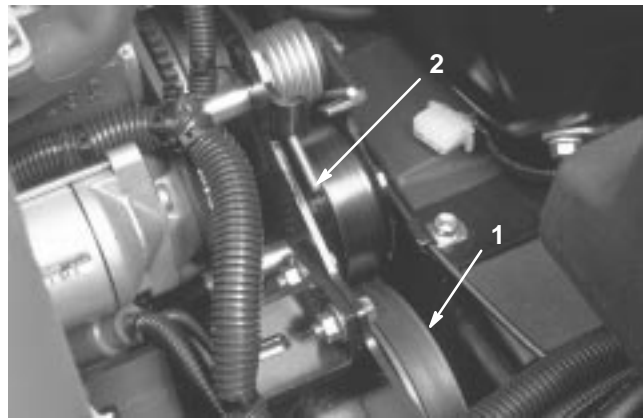

Figure 50
2. Push down and forward on the spring end (Fig. 50) to unhook it from the bracket and release tension on the spring.